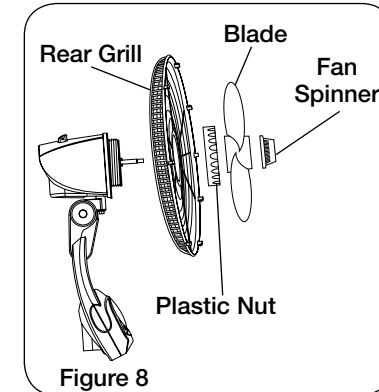
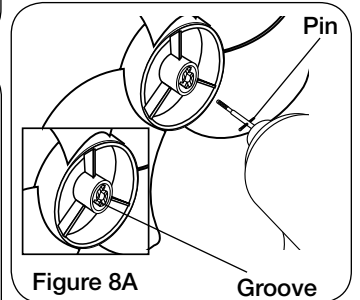

Figure 8
Figure 8A
9. Fully seat Rear Grill and secure with Plastic Nut turning Clockwise. Slide Blade onto Motor Shaft. (Figure 8) Align Groove on blade hub with Pin on motor shaft. (Figure 8A)